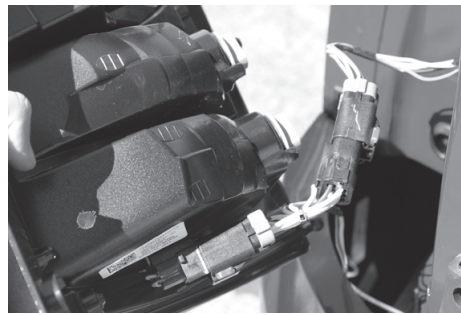

Figure 3
4. Starting on driver's side position the RV harness with connectors containing Yellow wires between separated vehicle harness connectors shown in **Figure 3**. Press connectors firmly into vehicle connectors until they lock into place. Pull on connectors to ensure the locks are engaged.